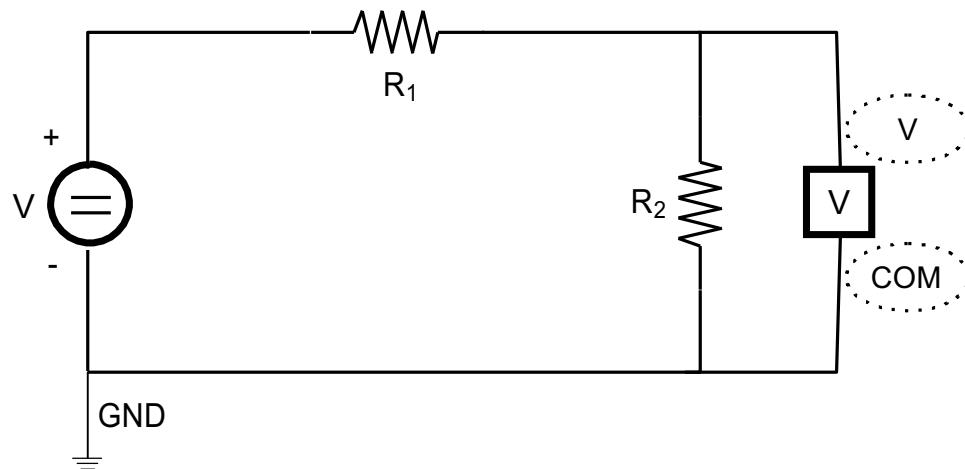

Fig. A-13
- b) When measuring voltage across a grounded resistor (R_2) the (COM) terminal should be connected to the ground line, as indicated in Fig. A-13.